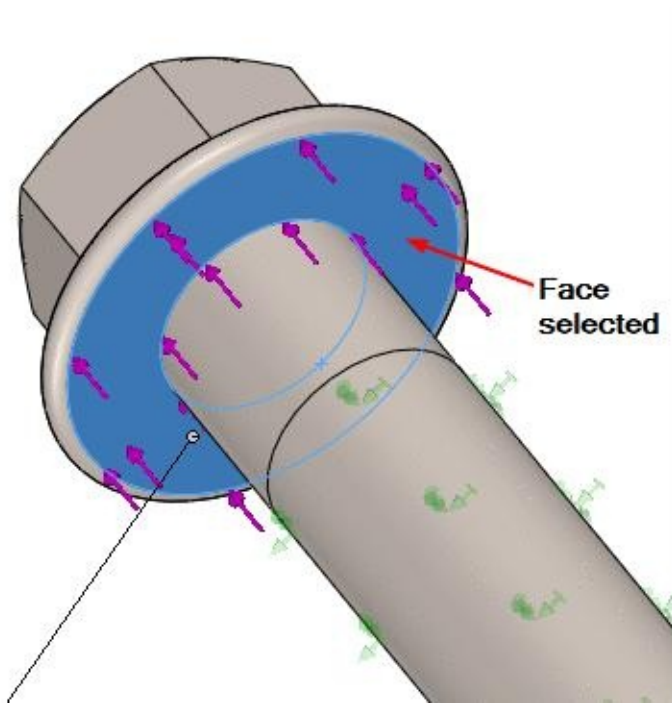

Figure-12. Face selected for applying force
- Select the flat face of the bolt as shown in Figure-12.